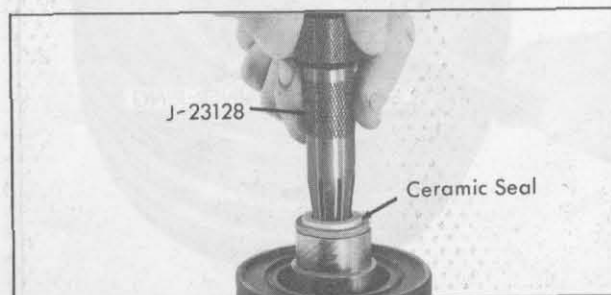

Fig. 1-69 Removing Seal Seat
5. Remove seal seat using Seal Seat Remover and Installer, J-23128, Fig. 1-69. Adjust tool to grasp the